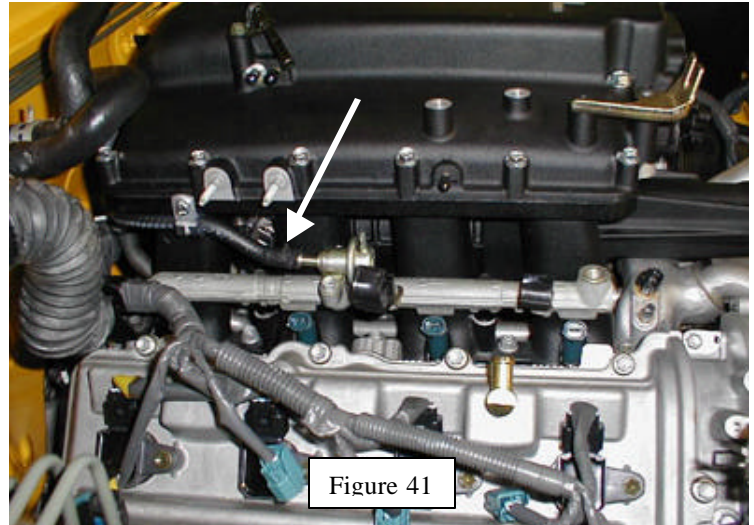

Figure 41
5. Install OE fuel return hose on fuel pressure regulator. Use OE hose clamp to secure hose (Figure 41). Be sure to position the hose clamp with the ears (tang) up.